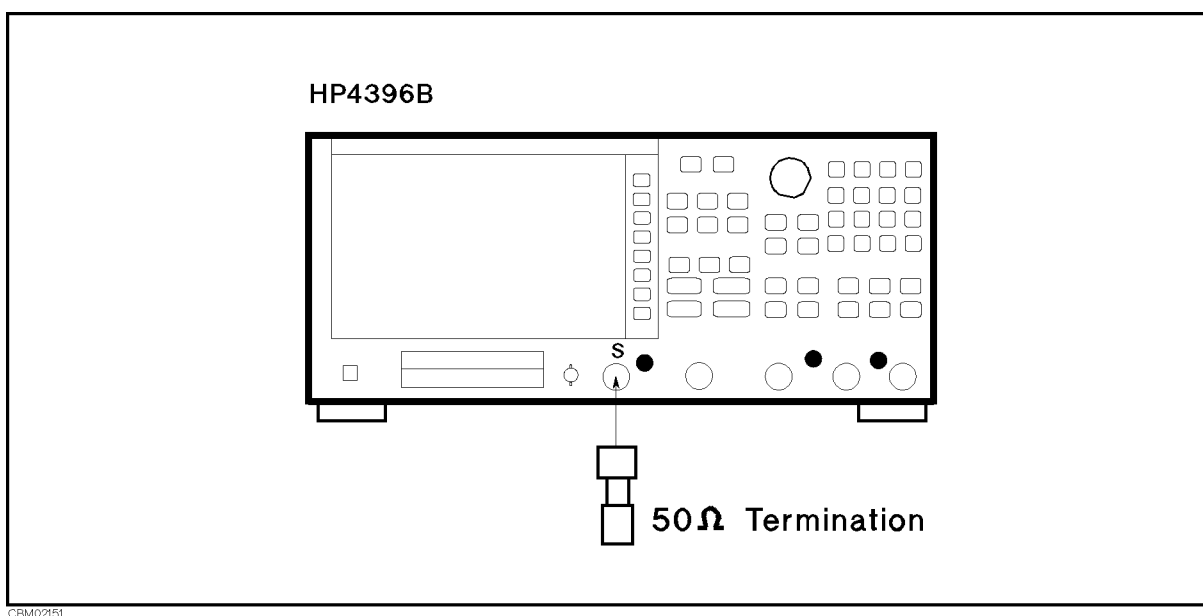

Figure 2-32. Residual Response Test Setup
1. Connect the test equipment as shown in Figure 2-32.